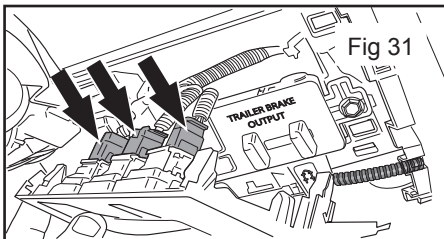

Fig 31
26. Once you pulled the trim out disconnect the switches from the trim to make room. (Figure 31)